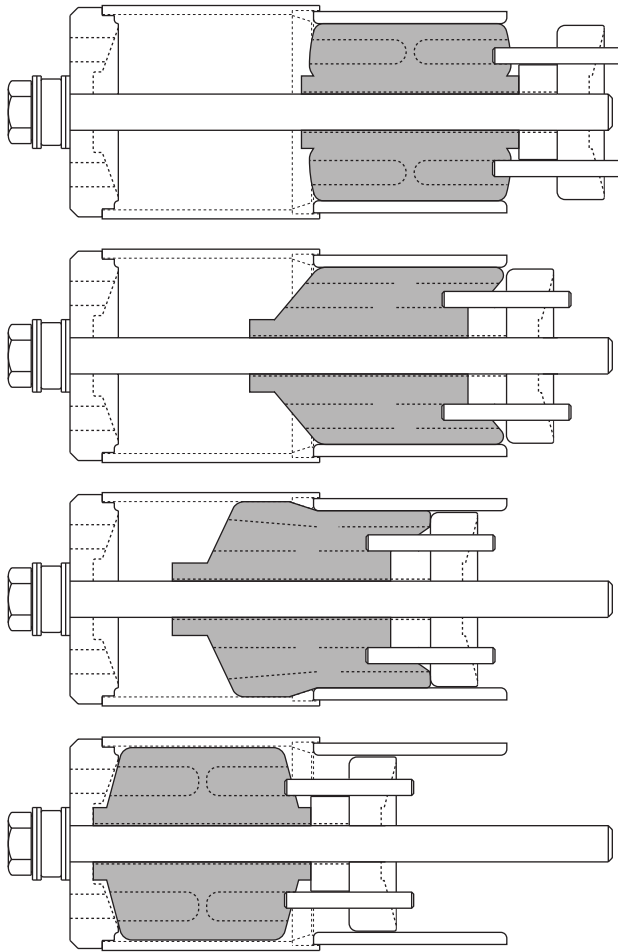

Figure 25: Typical bushing removal progression as hex head bolt is turned clockwise
- 13. Using a 3/4-inch impact wrench and a 1 1/16-inch heavy-duty (six-point) impact socket, **remove** the bushing by turning the hex head bolt clockwise (Figure 25). Normal removal time should be four minutes or less.